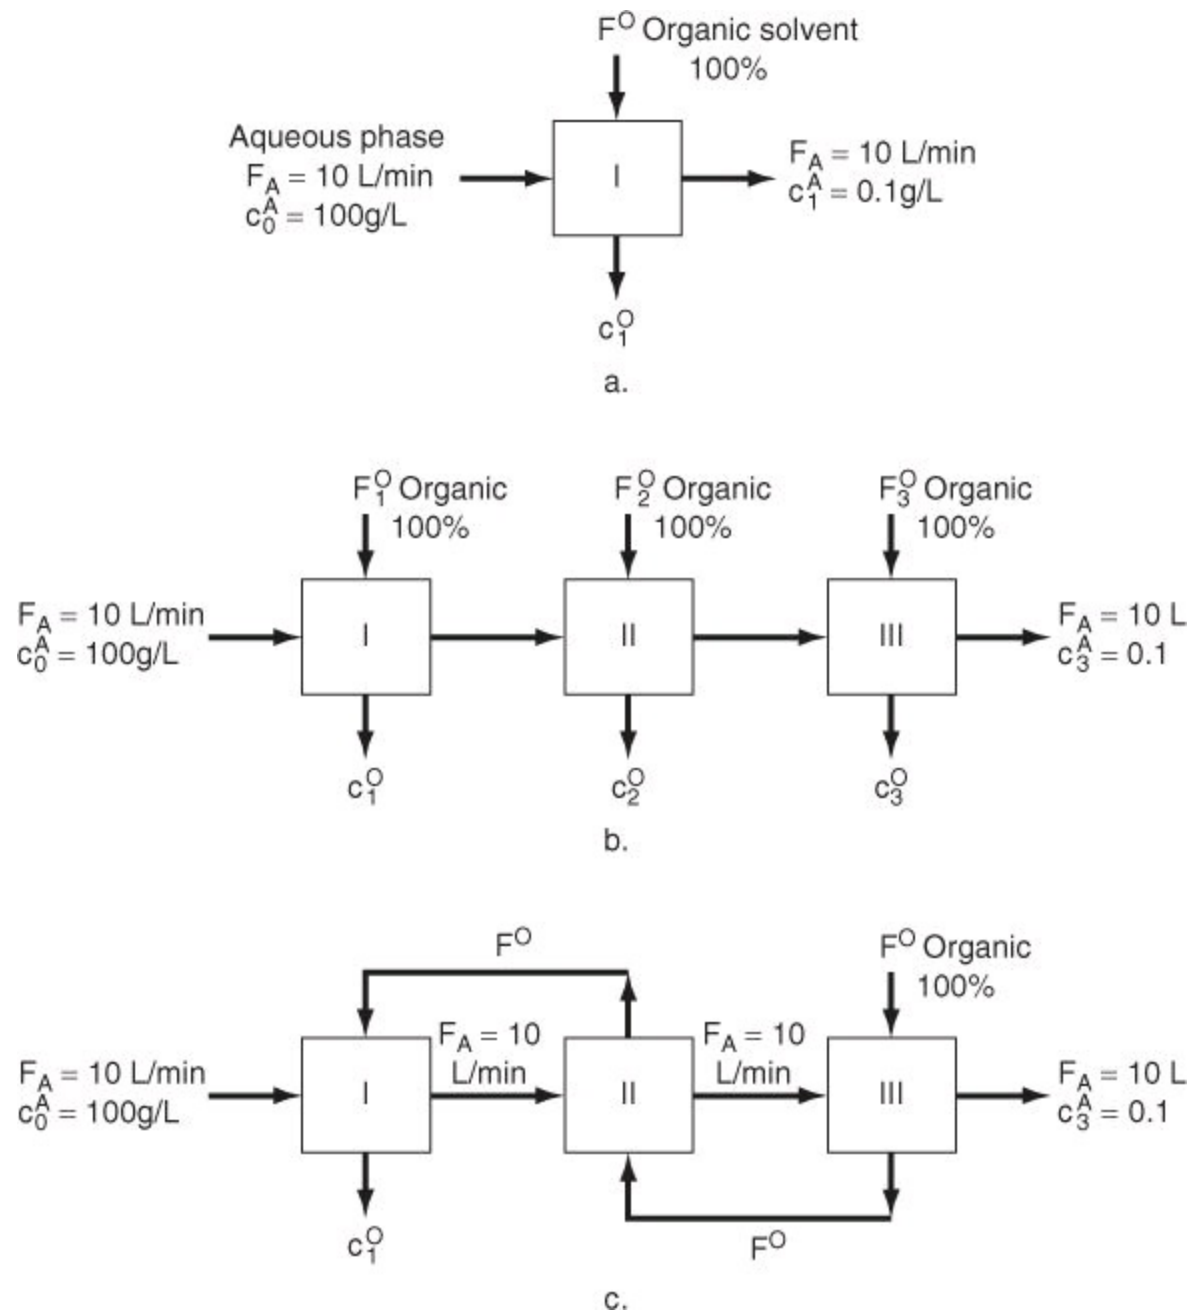

Figure P6.3.17
*****6.3.17.** This problem is based on the data of G. F. Payne [“Bioseparations of Traditional Fermentation Products,” in *Chemical Engineering Problems in Biotechnology*, edited by M. L. Schuler, American Institute of Chemical Engineers, New York (1989)]. Examine Figure P6.3.17. Three separation schemes are proposed to separate the desired fermentation products from the rest of the solution. Ten liters per minute of a broth containing 100 g/L of undesirable product are to be separated so that the concentration in the exit waste stream is reduced to (not more than) 0.1 g/L. Which of the three flowsheets requires the least fresh pure organic solvent? Ignore any possible density changes in the solutions. Use equal values of the organic solvent in Figure P6.3.17b, that is, $F_1^o + F_2^o + F_3^o = F^o$. The relation between the concentration of the undesirable material in